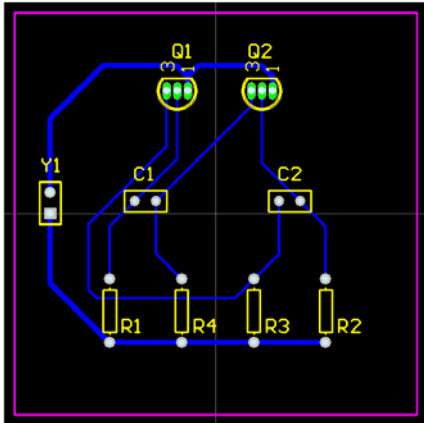

Figure 7. Manually routed board, with tracks placed on bottom layer.
12. You can now route the rest of the board in a similar manner to that described in the previous steps. Figure 7 shows the manually routed board.